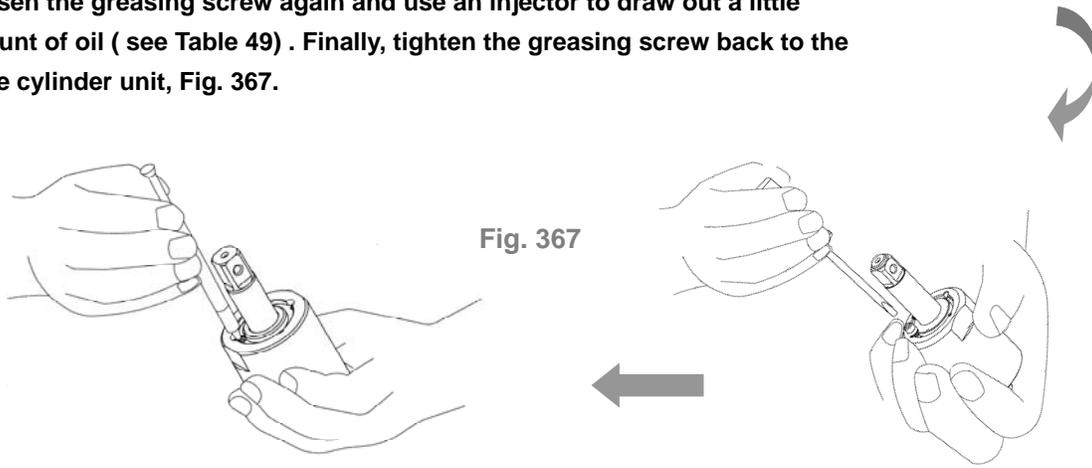

Fig. 367
- 5 Loosen the greasing screw again and use an injector to draw out a little amount of oil (see Table 49) . Finally, tighten the greasing screw back to the pulse cylinder unit, Fig. 367.